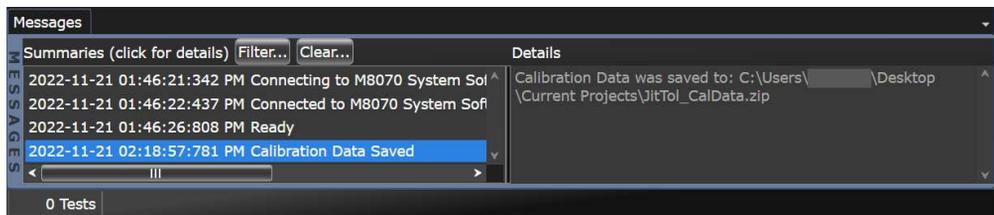

Figure 23 Set Up tab view after successfully saving Calibration Data
- 4 The **Messages** area in the OIF-CEI-112G Rx Test Application indicates whether the calibration data has been saved successfully (Figure 23).